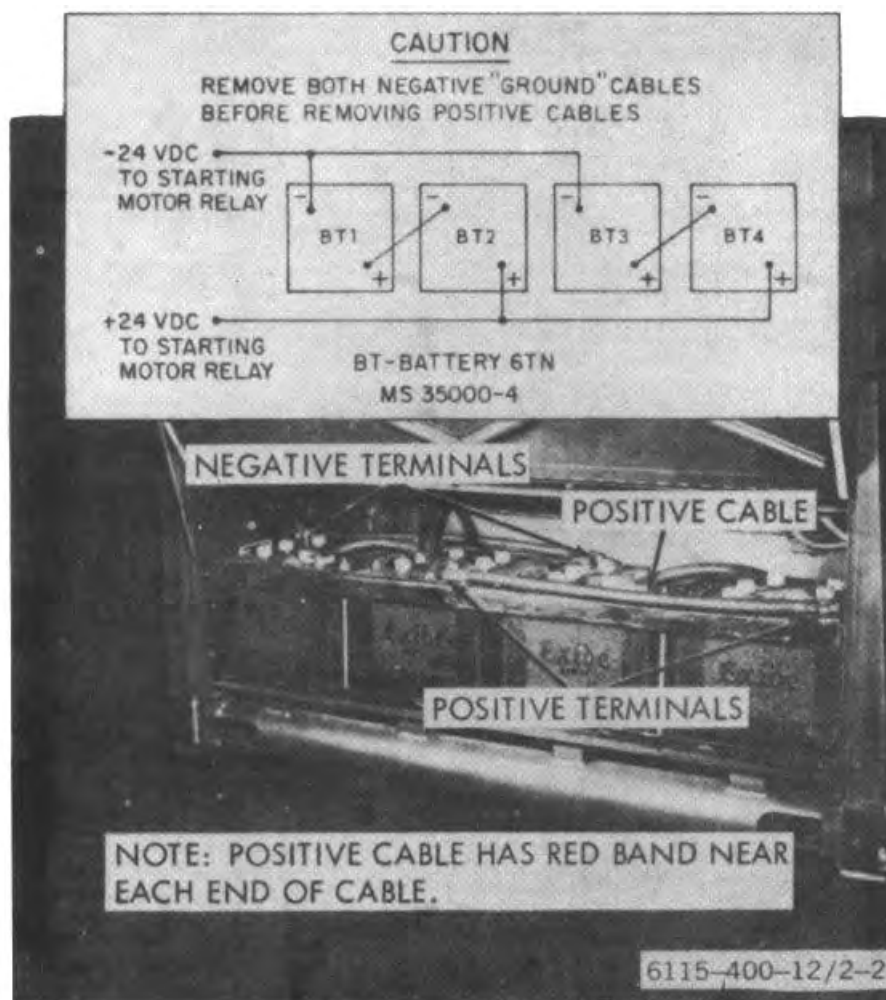

Figure 2-2. Batteries.
Batteries. The four 12-volt batteries are located below the radiator. Batteries are shipped in dry state and the electrolyte is shipped in a separate container. Fill and connect batteries as described below. See figure 2-2.
- e. Positive and negative cables are disconnected from the batteries when generator set is shipped. Connect these cables as illustrated in figure 2-2.
- (4) Disconnect the batteries. See figure 2-2.
- (5) Refer to the Basic Issue Items List (app. B) and make sure that all items are on or with the equipment and properly stowed.
- (6) Disconnect the ground lead from the ground terminal stud (para 2-5).
- (7) Disconnect any of the external hoses, lines, and cables, if used.
- (8) Close and secure all doors and panels.